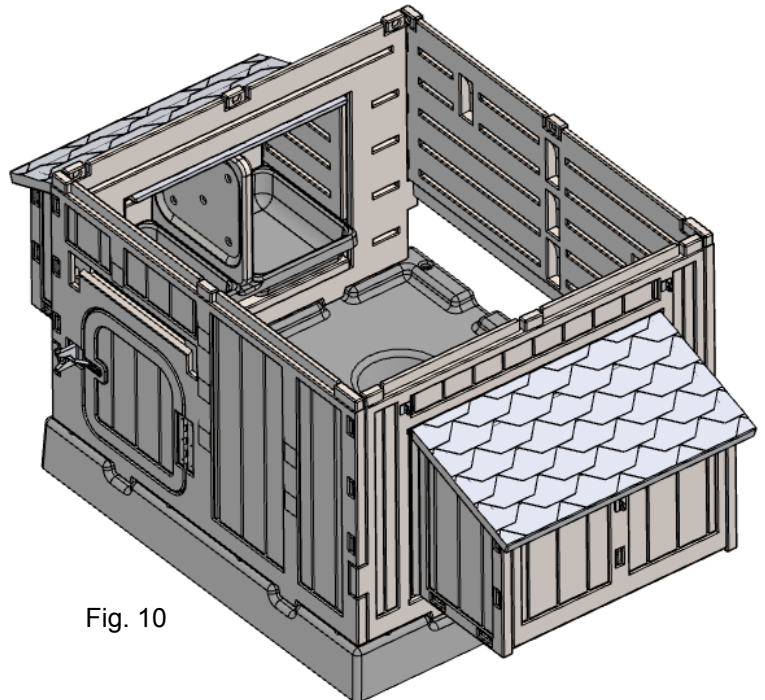

Fig. 10
**Step 10:** Repeat steps 6 through 9 to complete the Nest Box Assembly on the other Nest Side Wall.(Fig. 10)